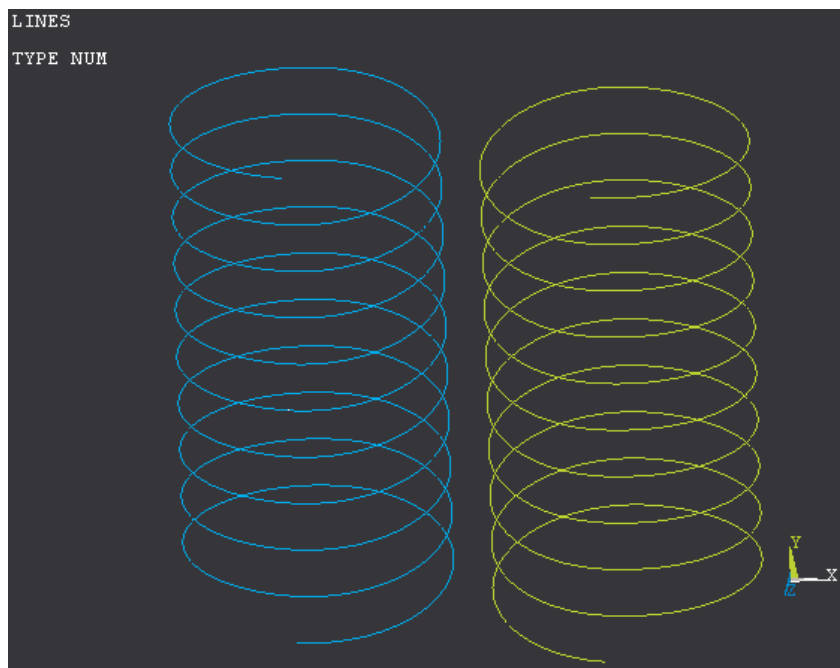

Figure 3. Left and right hand helix with ten revolutions.
13. Copy the lines in the Y direction 0.6mm, ten times. See Figure 3